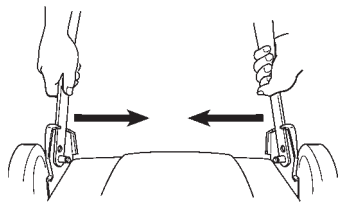

Figure 32
1. Squeeze the bottom handle sections together and slide them past the stops on the handle brackets (Fig. 32).